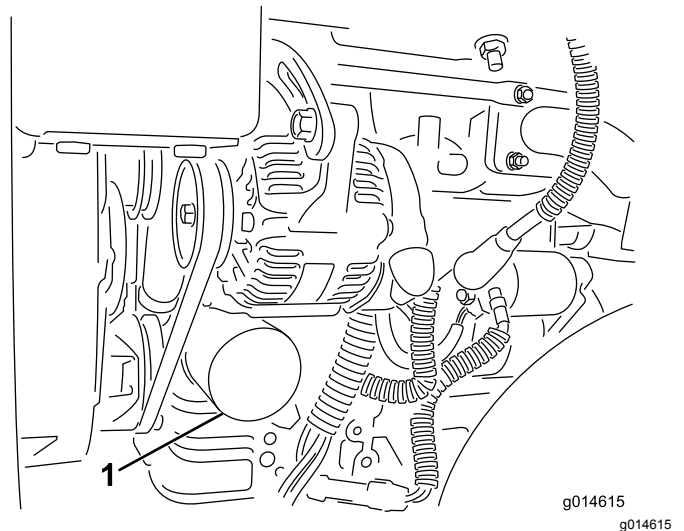

Figure 27
2. Remove the oil filter (Figure 27). Apply a light coat of clean oil to the new filter gasket.